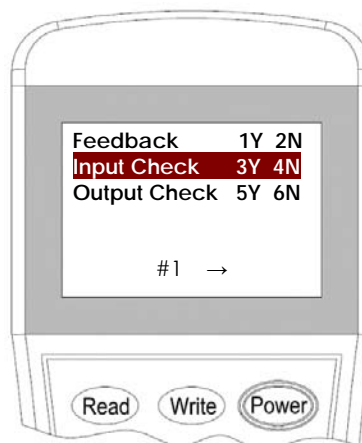

Figure 14: Page 1 for first address
4. The TX7220 takes two addresses. For the 1st address, Input the **"3"** for Check mode then press **"Write"** to change the setting (Figure 14).